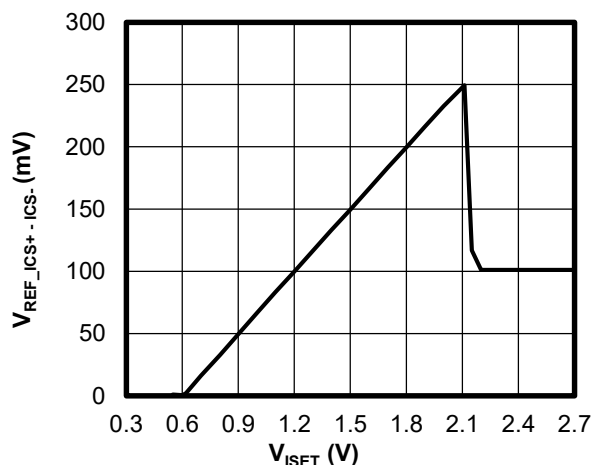

Figure 2: ISETMD Is Low
13. The ISET voltage (V_{ISET}) can set the reference voltage (V_{REF}) for the LED current regulator. When ISETMD is pulled down to GND and V_{ISET} rises up from 0.6V to 1.8V, V_{REF} rises from 0mV to 200mV linearly (see Figure 2). When V_{ISET} exceeds 2.3V, V_{REF} remains about 100mV.